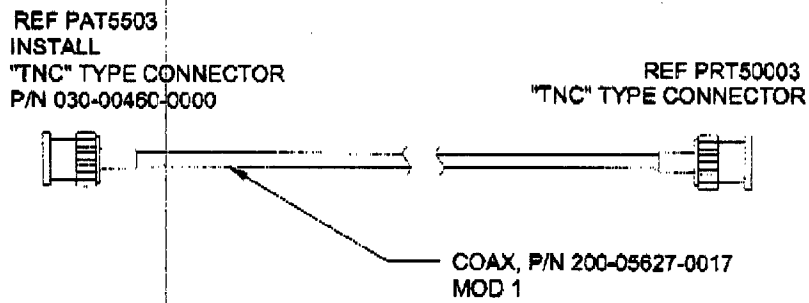

Figure 2
3. Remove the existing N connector (PRT50003) from coax cable P/N 200-05627-0017. Replace it with TNC connector P/N 030-00460-0000 as shown in Figure 2.